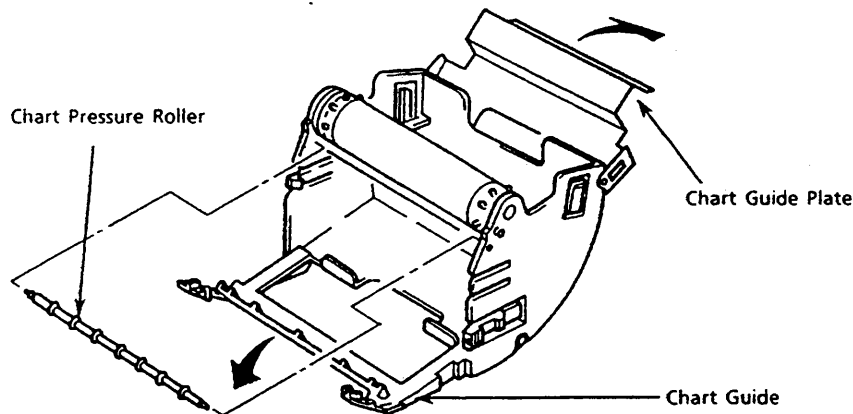

Figure 5.3 Pull Down the Chart Guide
- (3) Press the sides of the chart guide plate at the top rear of the chart compartment and turn the guide plate. (see Figure 5.3.)
- (4) Pull down the front transparent chart guide. (See Figure 5.3.)
- (5) Remove the chart pressure roller. (See Figure 5.3.)